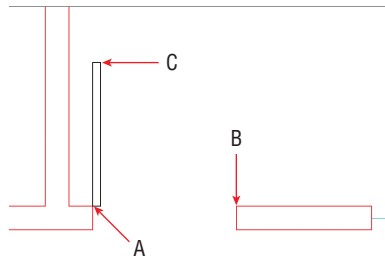

FIGURE 7.6 Drawing a door
-  4. Click the Rectangle tool in the Draw panel. Snap the first corner at point A, as shown in Figure 7.6. Type @1.5,2'6" (or @4,75 for metric), and press Enter to complete the door.
-  5. Click to open the Arc pull-down menu on the Draw panel, and select the Center, Start, End tool. Click points A, B, and C as shown in Figure 7.6 to create the swing.